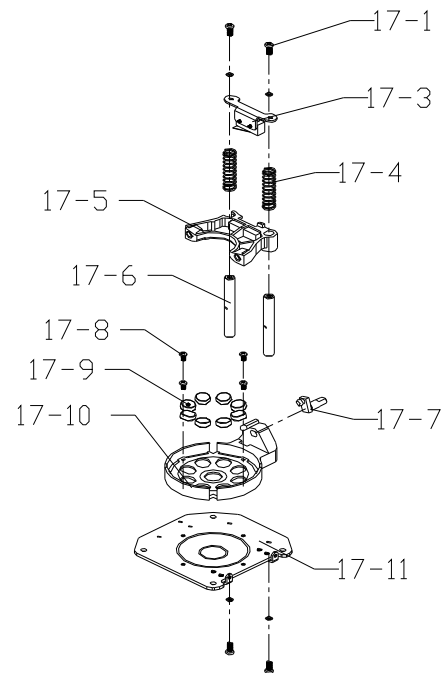
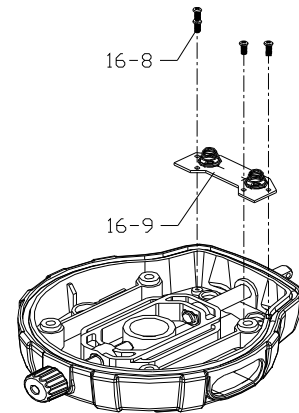

Figure 15
Figure 21
2. Gently disconnect plug-in connectors for the power switch (17-3#) (see Figure 15 below), the power board (16-9#), (see Figure 21 below) and the Power Adapter Board 5# (16-11#)
2. As per figure 15, remove the 2 crosshead plate screw M3×8(17-1#), and take out the power switch (17-3#) and compression springs (17-4#).
2. Remove the power board (16-9#). See Figure 21.